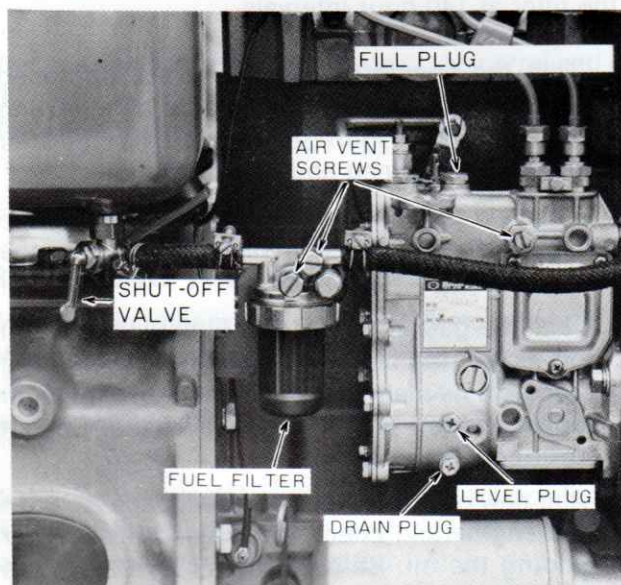

Figure 37 — Fuel Injection Pump
1. Remove the drain plug located at the bottom of the injection pump to drain the old oil. See Figure 37.
3. Remove the filler plug and fill with clean engine oil as specified on page 26 until oil flows from the oil level check plug, Figure 37.
1. Be sure there is adequate fuel in the fuel tank; close the fuel shut-off, Figure 37, then remove the fuel sediment bowl.
1. Close the shut-off valve, Figure 37.
3. Open the air vent screws Figure 37, and let the air bubbles escape while cranking the engine. Then close the vent screws.